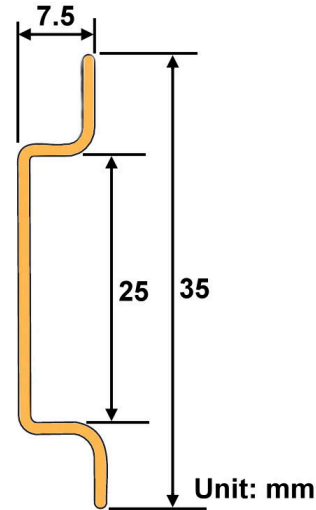

Figure 2.5.3
2. Please use the suitable DIN-Rail to install, please refer to the dimensions of the DIN-Rail.(Figure 2.5.3)